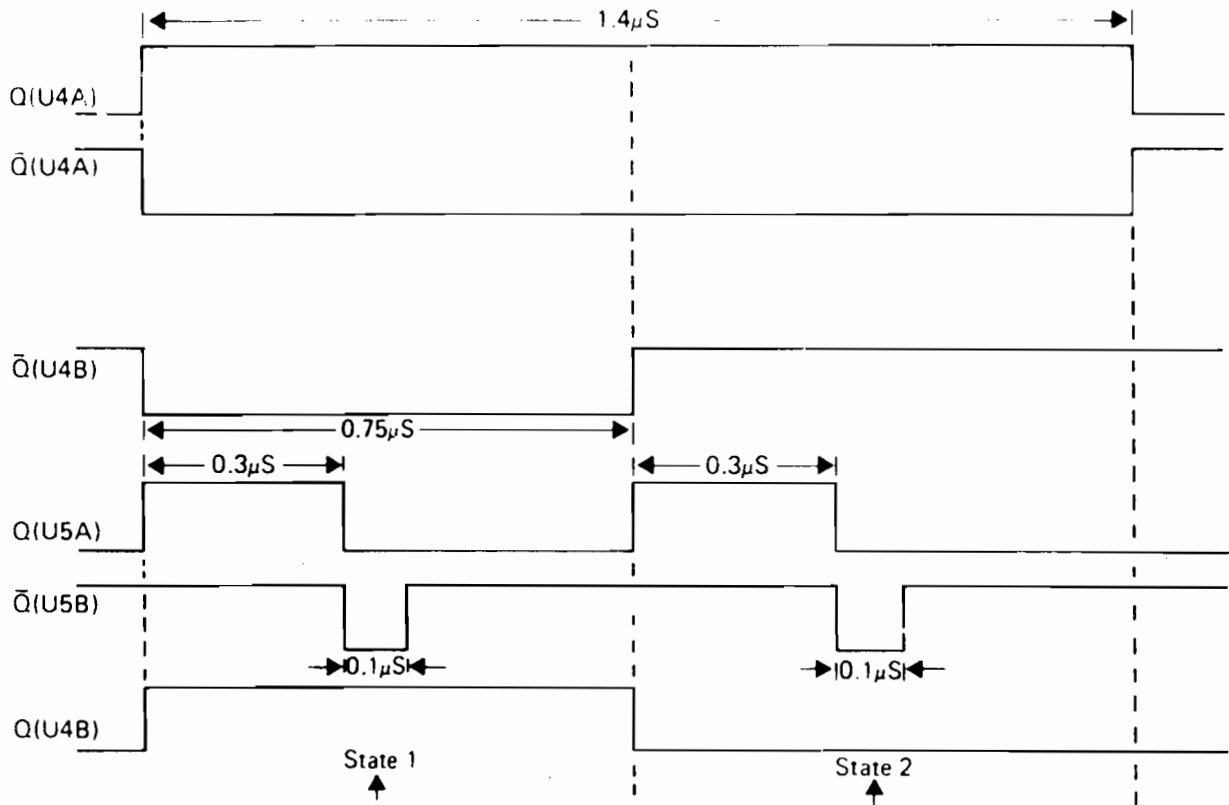

Figure 4.2. Timing Diagram
U4A is triggered with a high going collector output at Q1, and outputs a  $1,4 \mu\text{s}$  pulse, refer to the timing diagram below (Figure 4-2).
- If with the first cassette operation Error 43 occurs in the calculator display, check U4 and U5 for correct output pulses (refer to the timing diagram, Figure 4-2) and replace if defective.